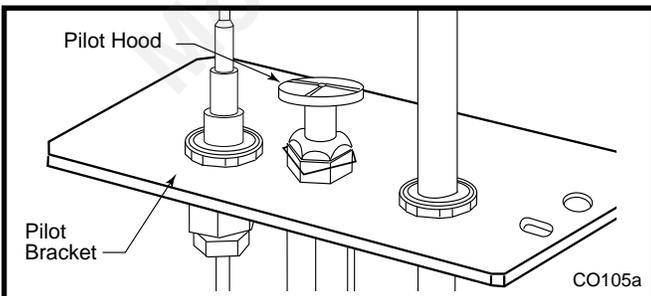

**Fig. 70** Remove center screw from Hi-Lo knob.
10. Remove cap from Hi-Lo knob. This can be accomplished by lifting the plastic cap off the screw. (Fig. 70)
11. Remove the screw from center of Hi-Lo knob with small screwdriver turning counterclockwise. (Fig. 70)